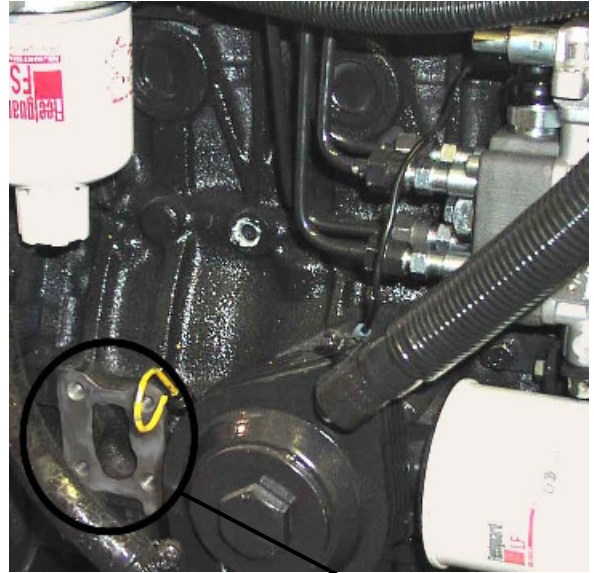

Figure 3 – Mount Bracket here
The bolt-holes for mounting the bracket to the engine are located directly under the fuel filter as shown in Figure 3. Place an M10 Lockwasher (3)